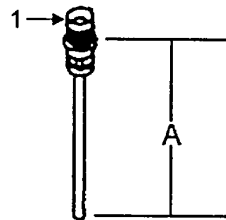

FIGURE 5-30. PUSHROD
a. Adjust complete pushrod (Figure 5-30, Item 1) so dimension "A", measured from bottom of pushrod to the top of the collar, equals 5.8189/5.8268 inch (147.8/148.0 mm). This adjustment is required for proper engagement of complete pushrod with pinion on decompression shaft.